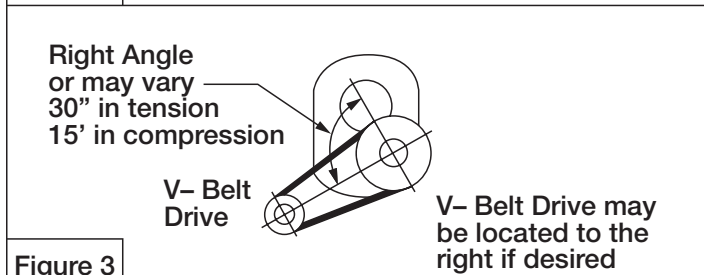

Figure 3
4. Install motor and V-belt drive so belt will approximately be at right angles to the center line between driven and input shaft. (See Fig. 3) This will permit tightening the V-belt with the torque arm.